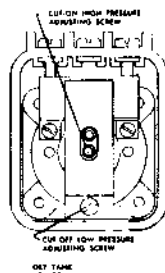

FIG. 3
4. If it is found that the trouble is other than the above then the switch must be adjusted as follows: Remove cover and turn high pressure screw (socket head) out or counterclockwise until pump will run with all faucets open. After making this adjustment if pump does not turn off when tank is out of water turn low pressure screw (large slotted) clockwise until it does. See Figure 3.
CURE: Remove cover and turn low pressure screw (large slotted) clockwise until pump turns off when supply is exhausted. See Figure 3. The length of time required for pump to turn off is dependent on size of system. An example is the pump on a larger system will run longer after the tank is dry than a smaller system due to length of time required for pressure to drop to 2 p.s.i.